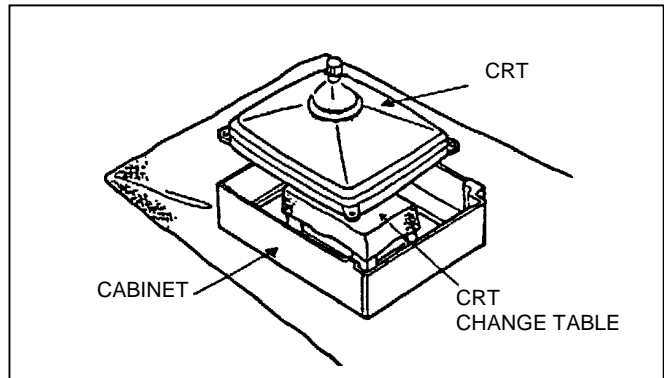

Fig. 7
4. After 4 screws have been removed, put the cabinet slowly on cloth (At this time, be carefully so as not to damage the front surface of the cabinet) shown in Fig.7.